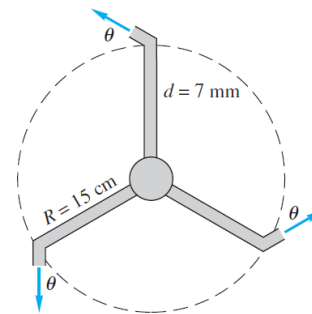

Fig. 3.22
3.22 The three-arm lawn sprinkler of Fig. 3.22 receives 20°C water through the center at 2.7 m³/h. If collar friction is negligible, what is the steady rotation rate in r/min for a) $\theta = 0^\circ$ and b) $\theta = 40^\circ$?